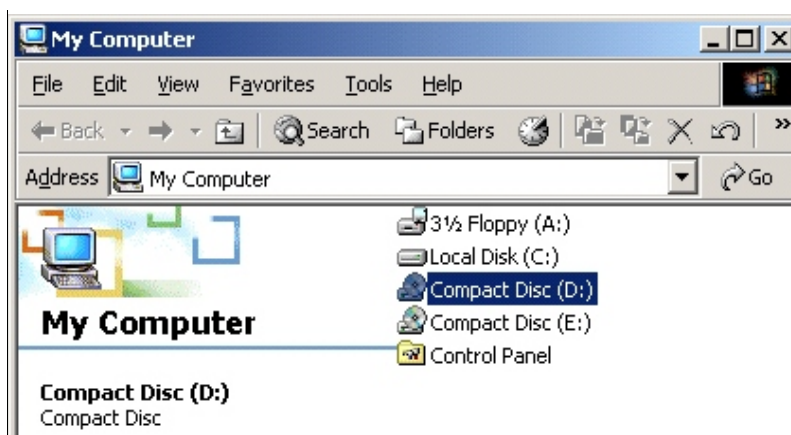

Figure B-1.1
2. Double-click the icon for the CD-ROM Drive. **Compact Disc (D:)** is the default name Windows gives the CD-ROM drive (see figure B-1.1). The contents of the D drive displays.